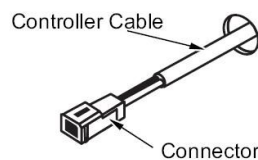

Fig. 2
3. Run the cable provided through the hole in the wall ensuring that the end fitted with the connector is nearest the controller (Fig.2).